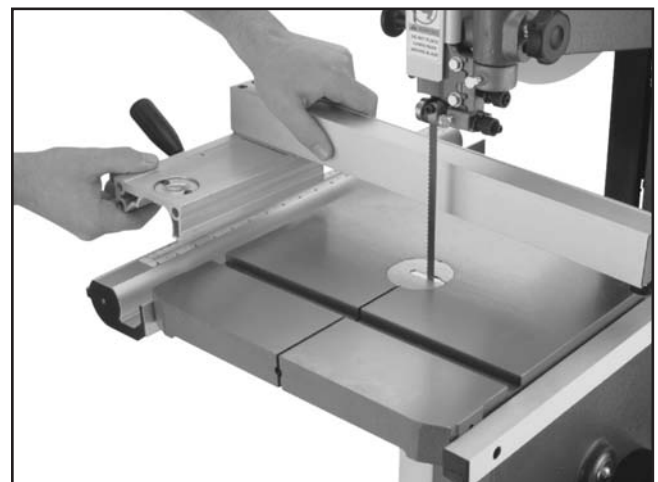

Figure 18. Installing fence onto rails.
- Pull the fence handle up and place the fence on the front fence rail, as shown in **Figure 18**.